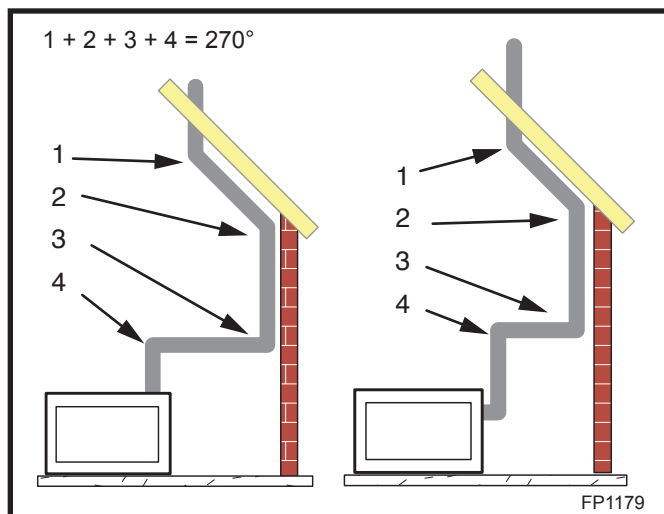

Fig. 40 Maximum elbow usage.
- Two sets of 45° elbow offsets may be used within the vertical sections. From 0 to a maximum of 8' (2.5 m) of vent pipe can be used between elbows. (Fig. 40)
- The maximum angular variation allowed in the system is 270°. (Fig. 40)